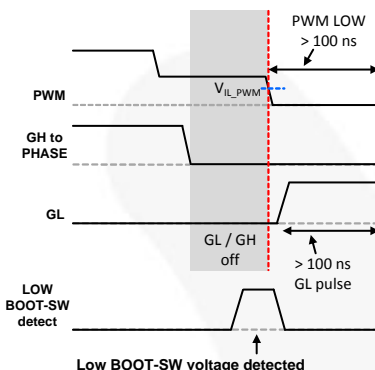
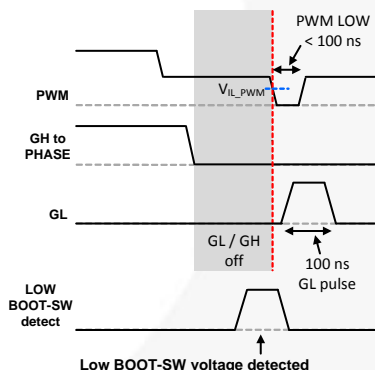

Figure 31. Low BOOT-SW Voltage Detected and PWM from 3-State to LOW for more than 100 ns
Figure 32. Low BOOT-SW voltage Detected and PWM from 3-State to LOW for Less than 100 ns
- If the part exits 3-state with a low BOOT-SW voltage condition and the controller commands PWM=LOW for 100 ns or more, the SPS follows the PWM input. If PWM=LOW for less than 100 ns, GL remains on for 100 ns then follows the PWM input (see Figure 31 and Figure 32).